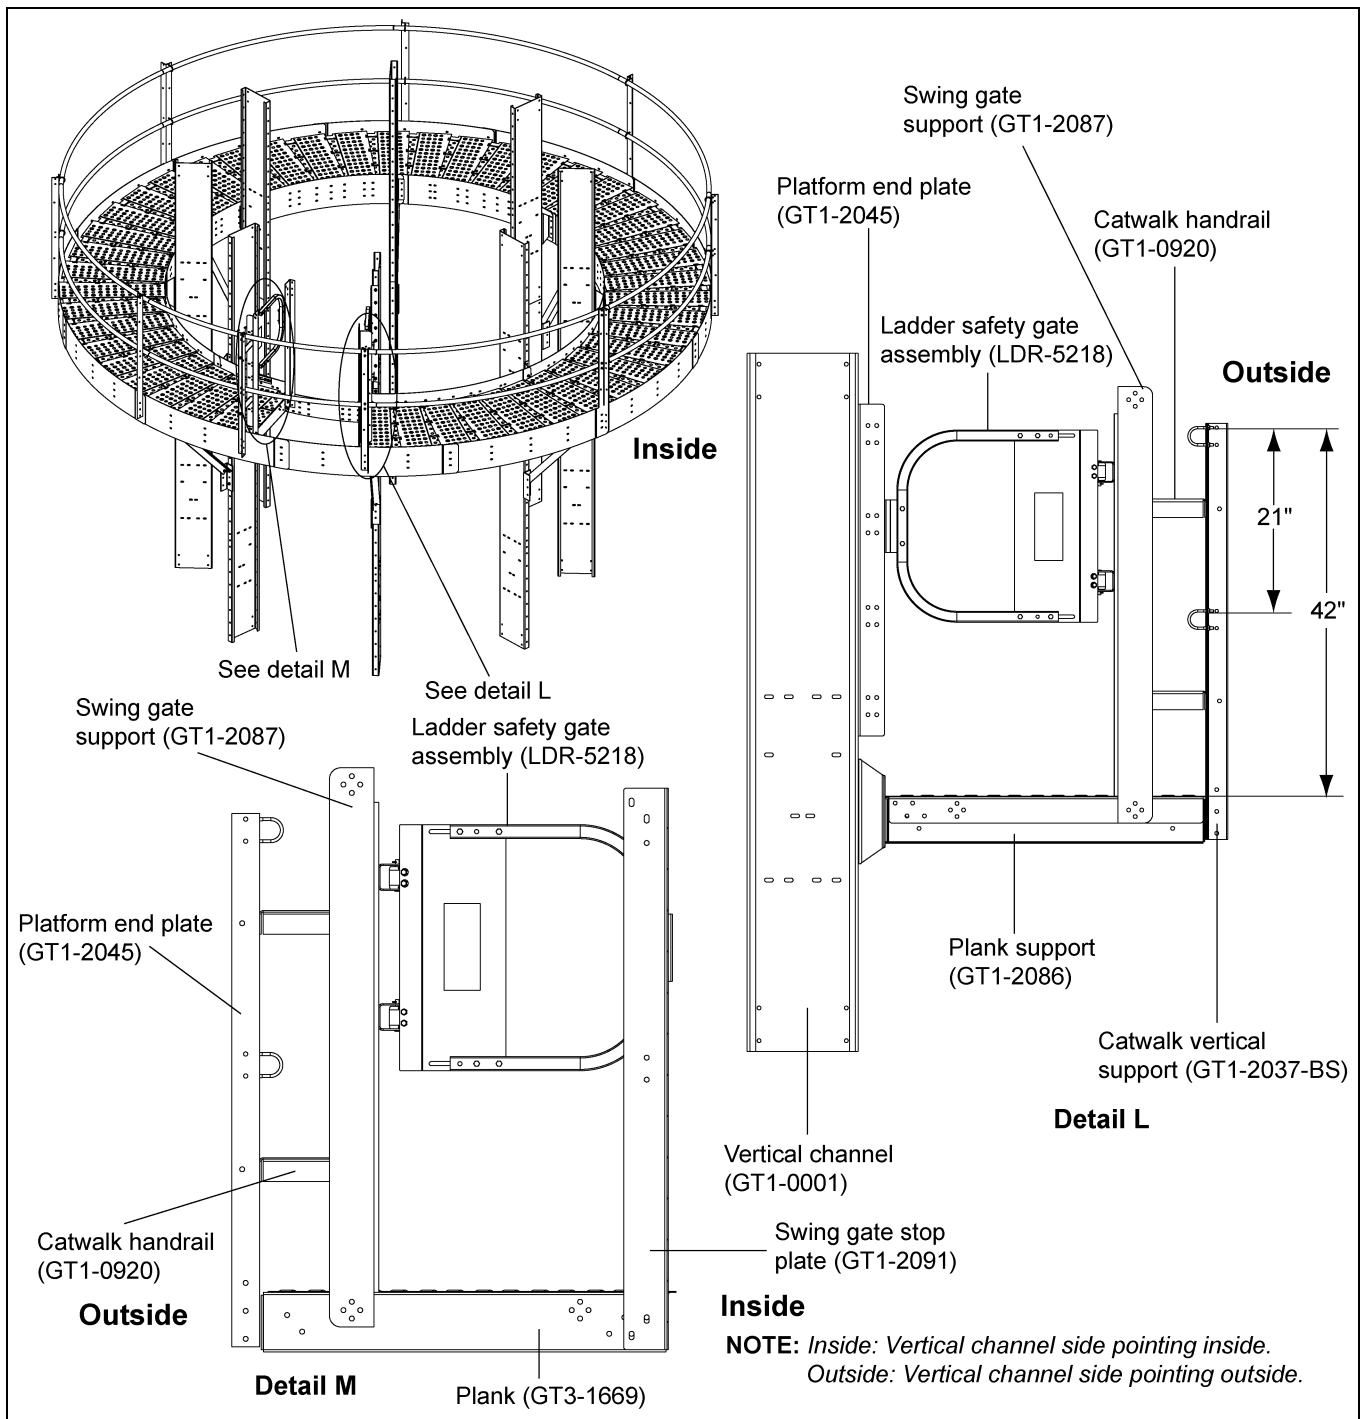

Figure 4X
5. Install the ladder safety gate assembly (LDR-5218) to the swing gate support (GT1-2087) using 3/8"-16 x 1" JS grade 8 or grade 8.2 bolts (S-7485) and 3/8"-16 ZN grade 5 nuts (S-968). (See detail L in Figure 4X.)
6. Install the ladder safety gate (LDR-5218) to the swing gate support (GT1-2087) and attach the stop plate (GT1-2091) to the ladder opening toe board (GT1-2089) and the plank (GT3-1669) using 3/8"-16 x 1" JS grade 8 or grade 8.2 bolts (S-7485) and 3/8"-16 ZN grade 5 nuts (S-968). (See detail M in Figure 4X.) The distance between the plank and handrail is 42".